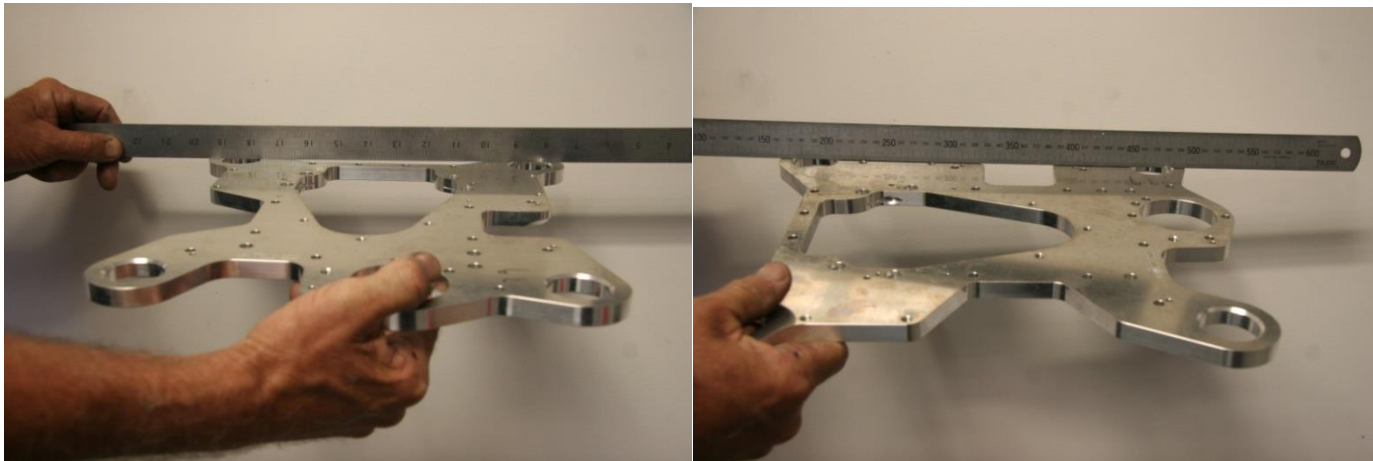

Figure 111 – Checking Engine Mount Plate Trueness
- Using a straight edge, carefully check the plate in both directions for trueness. Often an engine which has been in an accident or had a severe propeller strike will be bent. Figure 111 refers